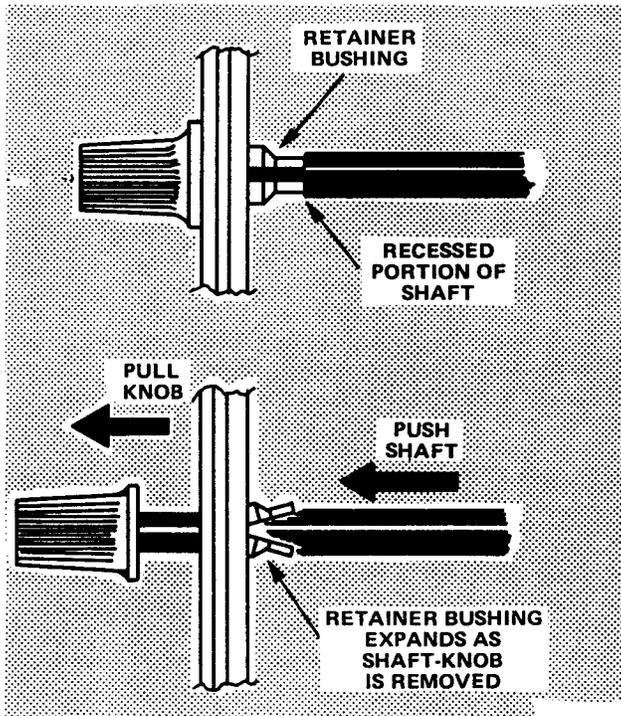

Figure 5-9. Shaft-knob removal.
(8) Carefully pull crt out of shield (watch horizontal deflection leads).
(9) Reinstall the crt in reverse order.
h. Shaft-Knob Removal (Figure 5-9).
(1) Grip knob end with one hand and shaft with other hand.
(2) Pull on knob, while pushing on shaft, to free recessed portion of shaft from retainer bushing. Some shaft-knobs may require considerable force to remove.
(3) Replace the shaft-knob in reverse order.